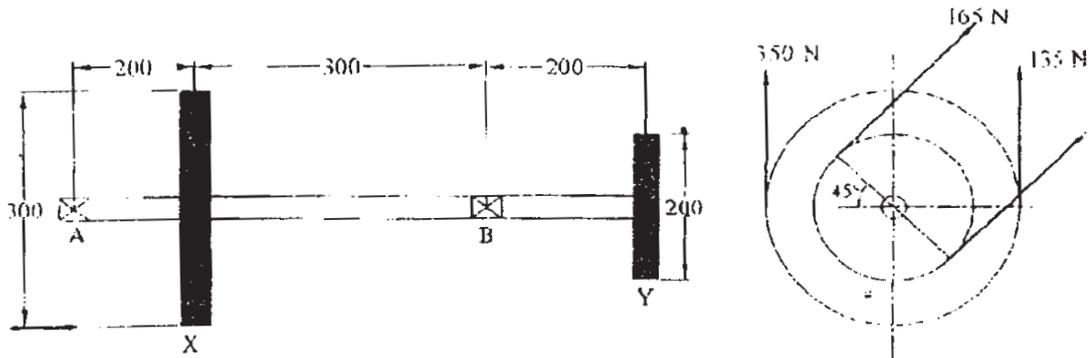

Fig. 1
- Q1)** A steel shaft made of 40C8 is used to drive a machine. The pulleys X, Y and bearings A, B are located as shown in Fig.1 Belt tensions are also shown. Determine diameter of the shaft using ASME code. Take S_{yt} of the shaft material as 330N/mm^2 and $S_{ut} = 600\text{N/mm}^2$. Assume $K_b = 1.5$ and $K_t = 1.2$. If the rectangular key is made of the same material, design the key. [16]